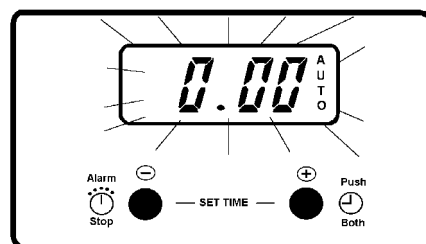
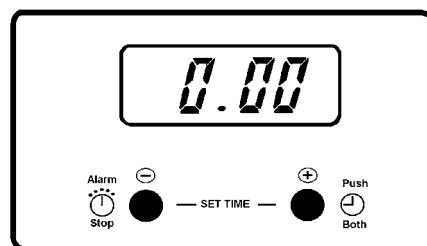

Fig 2.
Fig 3.
Release the buttons and 0.00 will appear in the display as Fig. 2. **Within 5 seconds** press button (2). 12.00 will show in the display as Fig. 3.